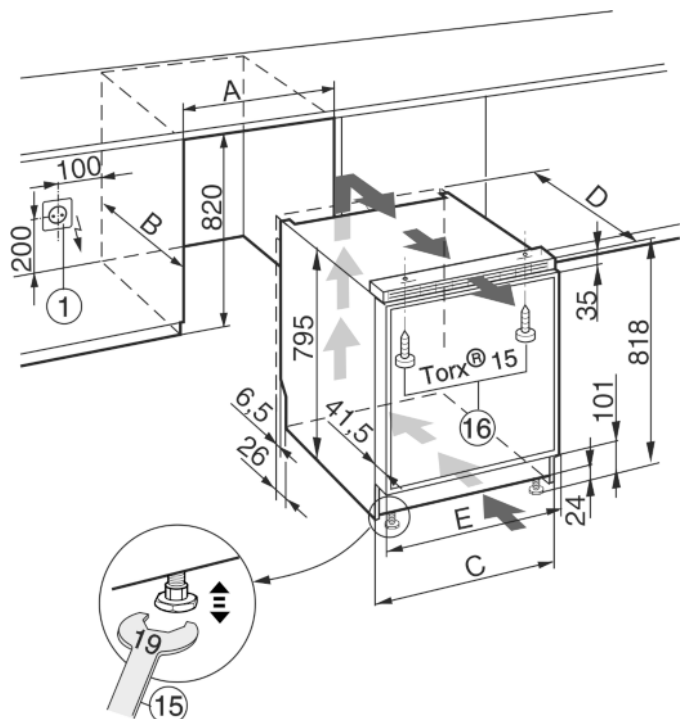

Fig. 12
- The socket outlet Fig. 12 (1) must be adjacent to the appliance and readily accessible.
- ▶ Align the appliance by applying the accompanying open-ended spanner *Fig. 12 (15)* to the height-adjustable feet.
- ▶ Fasten the top of the appliance to the worktop or to the furniture unit using the accompanying screws *Fig. 12 (16)*.